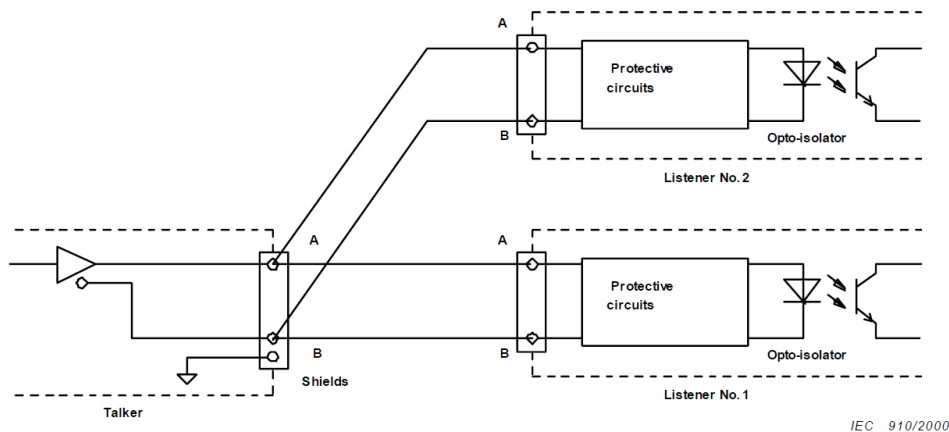

Figure 7: IEC 61162-1 Circuits
- One talker (Tx side, commonly a sensor such as GPS) may be connected to one or more listeners (Rx side, e.g. displays or computer systems such as ECDIS). The circuit looks as shown in *Figure 7: IEC 61162-1 Circuits* on page 15.